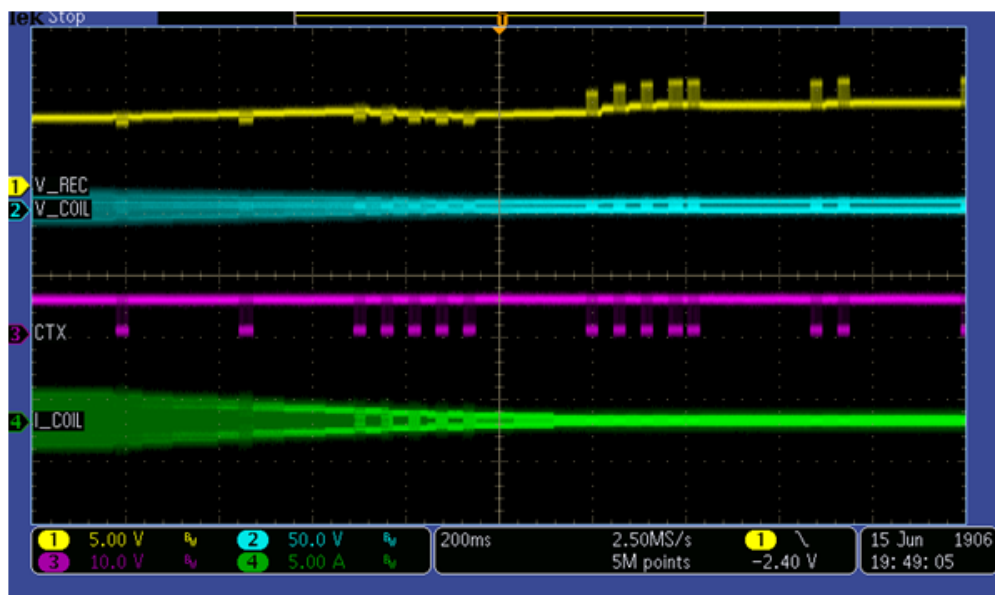

Figure 28. System response for reducing the load gradually to 0 A
- System response measurement for reducing the load gradually to 0 A is shown in Figure 28.